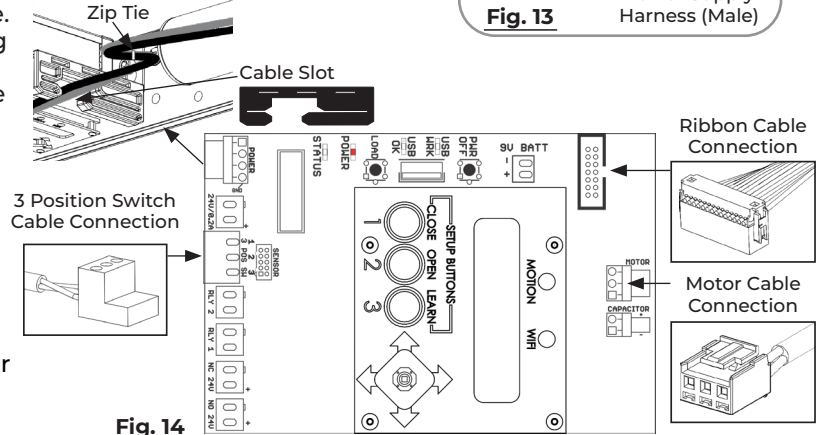

Fig. 14
5. Connect the motor cable and ribbon cable from the operator body to the power supply control board. (Fig. 14)
6. Connect the 3-position switch to the power supply. (Fig. 14)